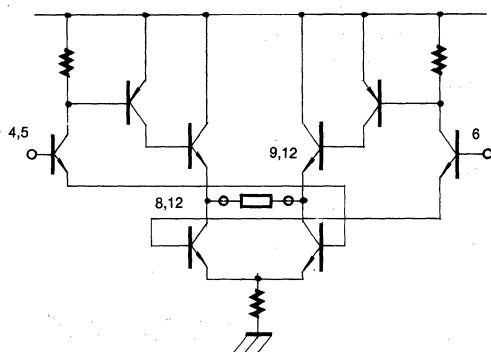

Fig. 6
2. Concerning about the output current flow, if PIN 4 voltage is high relative to PIN 6, an output current resulted from the voltage difference flows from PIN 8 to PIN 9. In case PIN 6 voltage is higher than PIN 4 conversely, output current flows from PIN 9 to PIN 8. If PIN 5 voltage is higher than PIN 6, an output current resulted from the voltage difference flows from PIN 12 to PIN 11. In case PIN 6 voltage is higher than PIN 5 conversely, output current flows from PIN 11 to PIN 12. (Fig. 6)